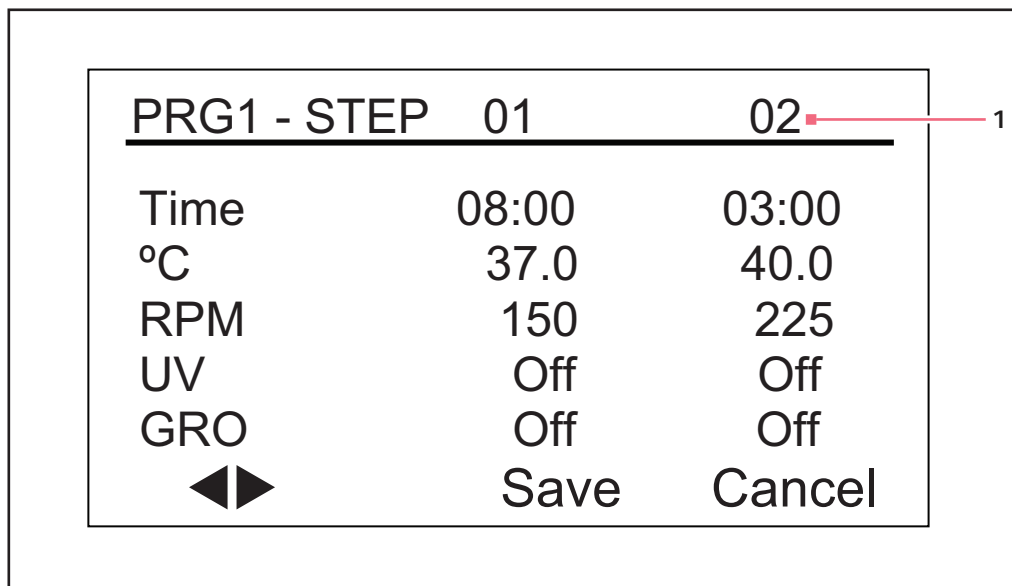

Fig. 9-12: Program 1, Step 2
- Turn the knob to highlight the time setting (00:00 in the sample screen, (see Fig. 9-12 on p. 59)), then click the knob in. The field will flash.
- Turn the knob until the desired running duration for this step (from 00:01, which means 1 min, to 99:59) appears, then click the knob in to save the setting. We will set *Step 1* time to 8 hours for this example (see Fig. 9-12 on p. 59).
- To set the temperature desired (°C from 4.0 to 80.0) for the time period you have set, turn the knob (left to decrease, right to increase). When the desired value appears, click the knob in to save the setting. We will set *Step 1* temperature to 37.0 °C (see Fig. 9-12 on p. 59).
- Turn the knob to select the desired shaking speed (25 to 400 RPM) for this time period, then click the knob in to save the setting. We will set *Step 1* speed to 150 RPM (see Fig. 9-12 on p. 59).
9. If you do not have the optional *UV* lamp, skip this step. If you have the *UV* lamp (default setting is *Off*) and you wish to have it on during the time period you have set, use the control knob to select the field, click the knob to select the field (it will flash), turn the knob to select *On*, then click the knob in to save the setting. In our sample *Step 1* (see Fig. 9-12 on p. 59), however, *UV* remains *Off*.
10. If you do not have the optional *GRO* lamps, skip this step. If you have the photosynthetic lamps (default setting is *Off*) and you wish to have them on during the time period you have set, use the control knob to select the field, click the knob to select the field (it will flash), turn the knob to select *On*, then click the knob in to save the setting. In our sample *Step 1* (see Fig. 9-12 on p. 59), however, *GRO* remains *Off*.
11. To program *Step 2* (see Fig. 9-12 on p. 59): use the control knob to highlight the arrows at the bottom left of the screen. Click the knob to make the arrows flash, then turn the knob to the right until *Step 2* appears. Click the knob in to work in this screen, and repeat Steps 3 – 10. Whatever step is shown on the right-hand side of the display is settable (see Fig. 9-12 on p. 59), it is *Step 2*). To scroll between steps, select the arrows (bottom left), then turn the control knob clockwise or counterclockwise, then select the desired step.